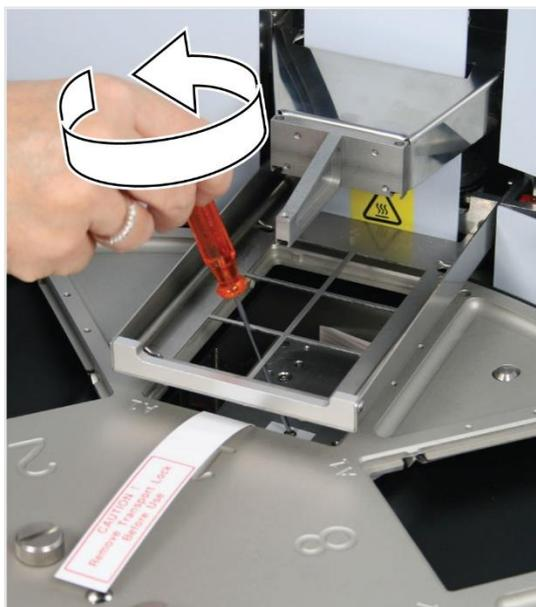

Figure 27. Refit the transport lock of the heating block (B)
1. The transport lock of the heating block is refitted according to Figure 27. Screw the transport lock screw clockwise (Figure 27). Figure 31 shows both the transport locks refitted.